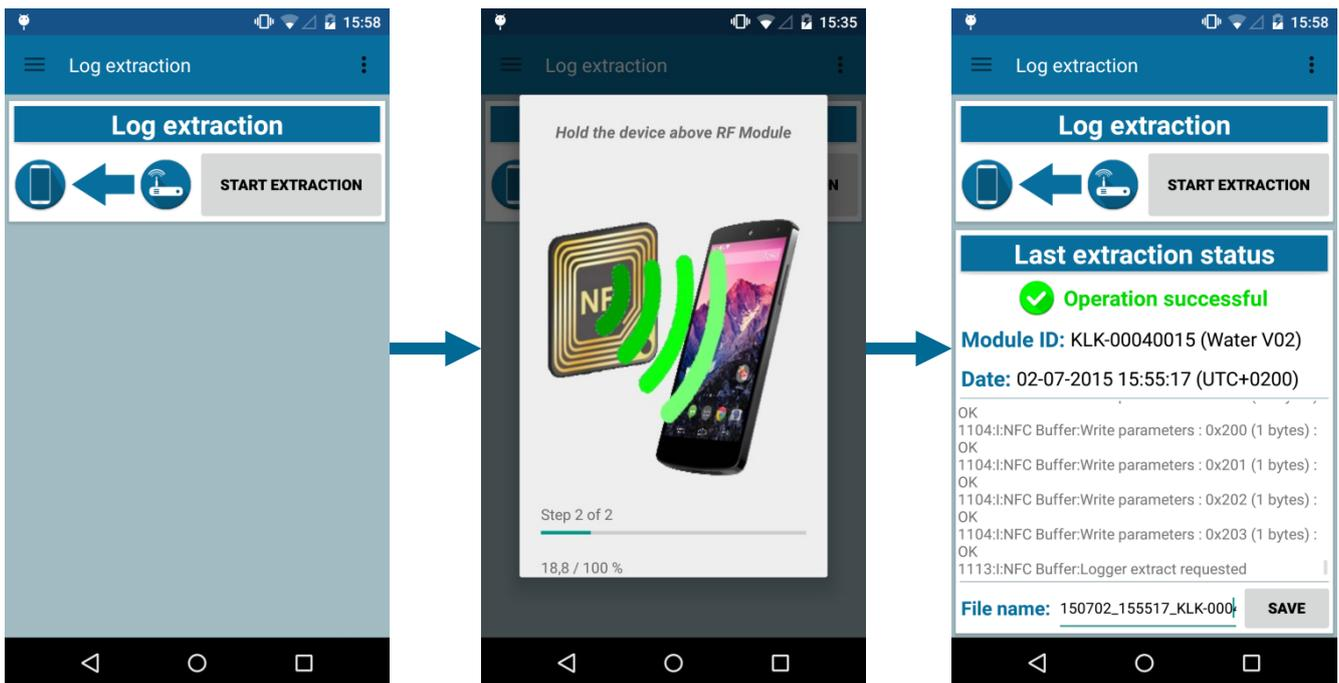

Figure 31: Log extraction operation
- Once completed the extraction, the log data displayed on the screen (see Figure 31).